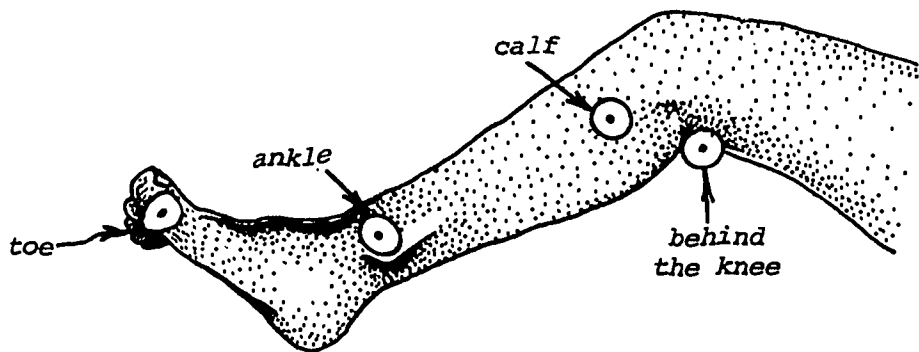

FIGURE 5: sites for Temperature Measurement Before and After Exercising.
4. Select a student who is willing to do a little exercising (see Step 5). Measure the temperature of the four locations indicated in Figure 5. Also measure the temperature of the subject's armpit. In this case, the thermistor can be held in place by having the subject close his or her arm on it.